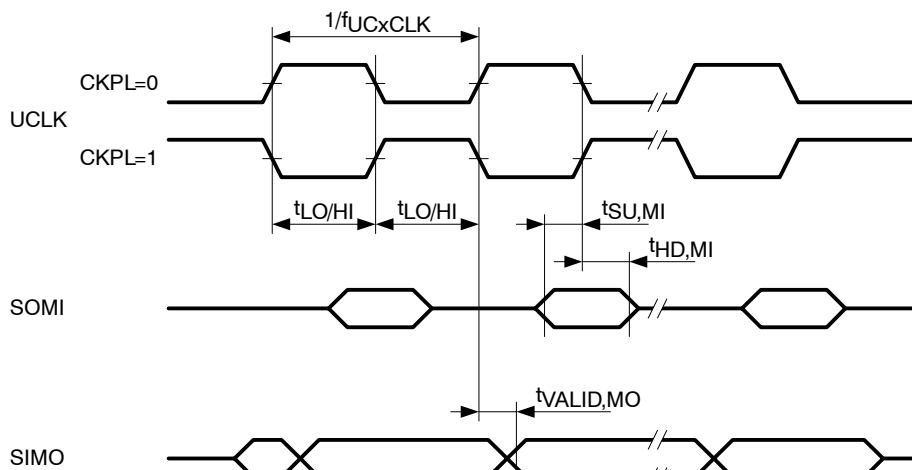
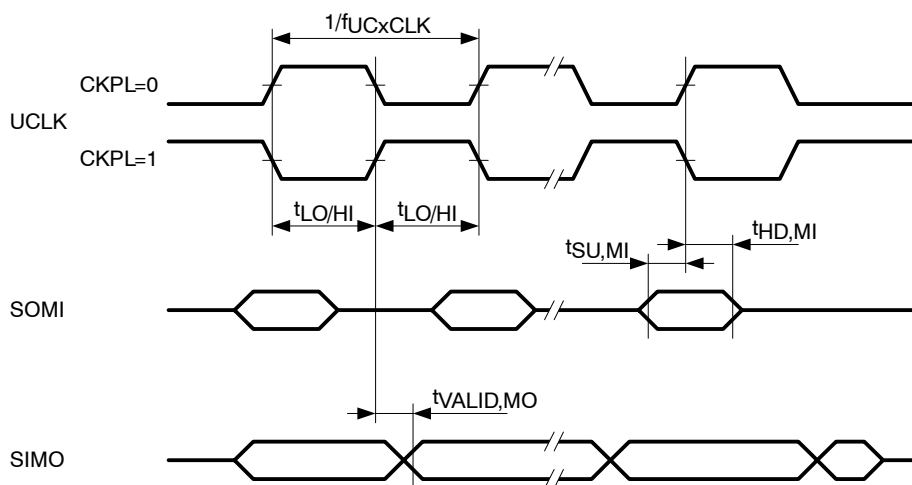

Figure 27. SPI Master Mode, CKPH = 0
Figure 28. SPI Master Mode, CKPH = 1
**USCI (SPI master mode) (see Figure 27 and Figure 28)**